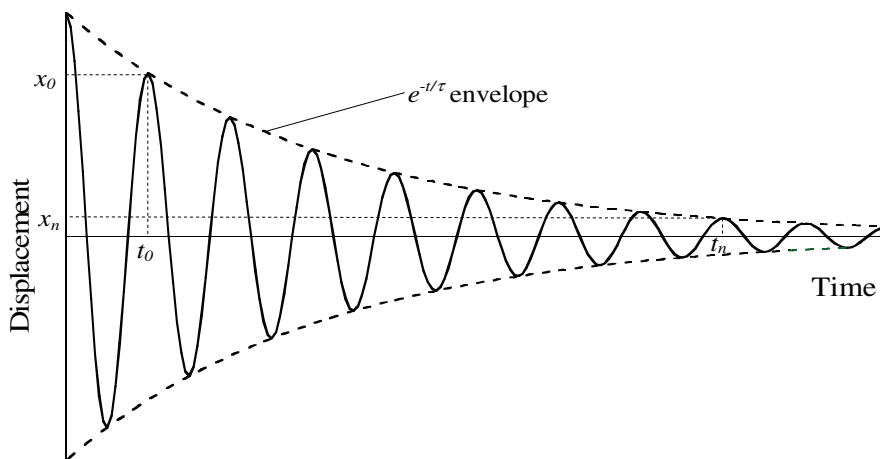

Figure 11.2:
$A_D$  and  $\delta_D$  are constants of integration and are again determined by the initial conditions. An example of Equation (11.11), with  $\delta_D = \pi/2$ , is shown in Figure 11.2:
**Question 2-1:** Does the motion look like Figure 11.2? Discuss.
We can use Equation (11.11) and our data to determine the damping time  $\tau$ . Refer to Figure 11.2. We measure the amplitude  $x_0$  at some time  $t_0$  corresponding to a peak. We then measure the amplitude  $x_N$  at  $t_N$  (the peak  $N$  periods later). [Remember that the period is given by  $T = 1/f = 2\pi/\omega$ .] From Equation (11.11) we can see that the ratio of the amplitudes will be given by: